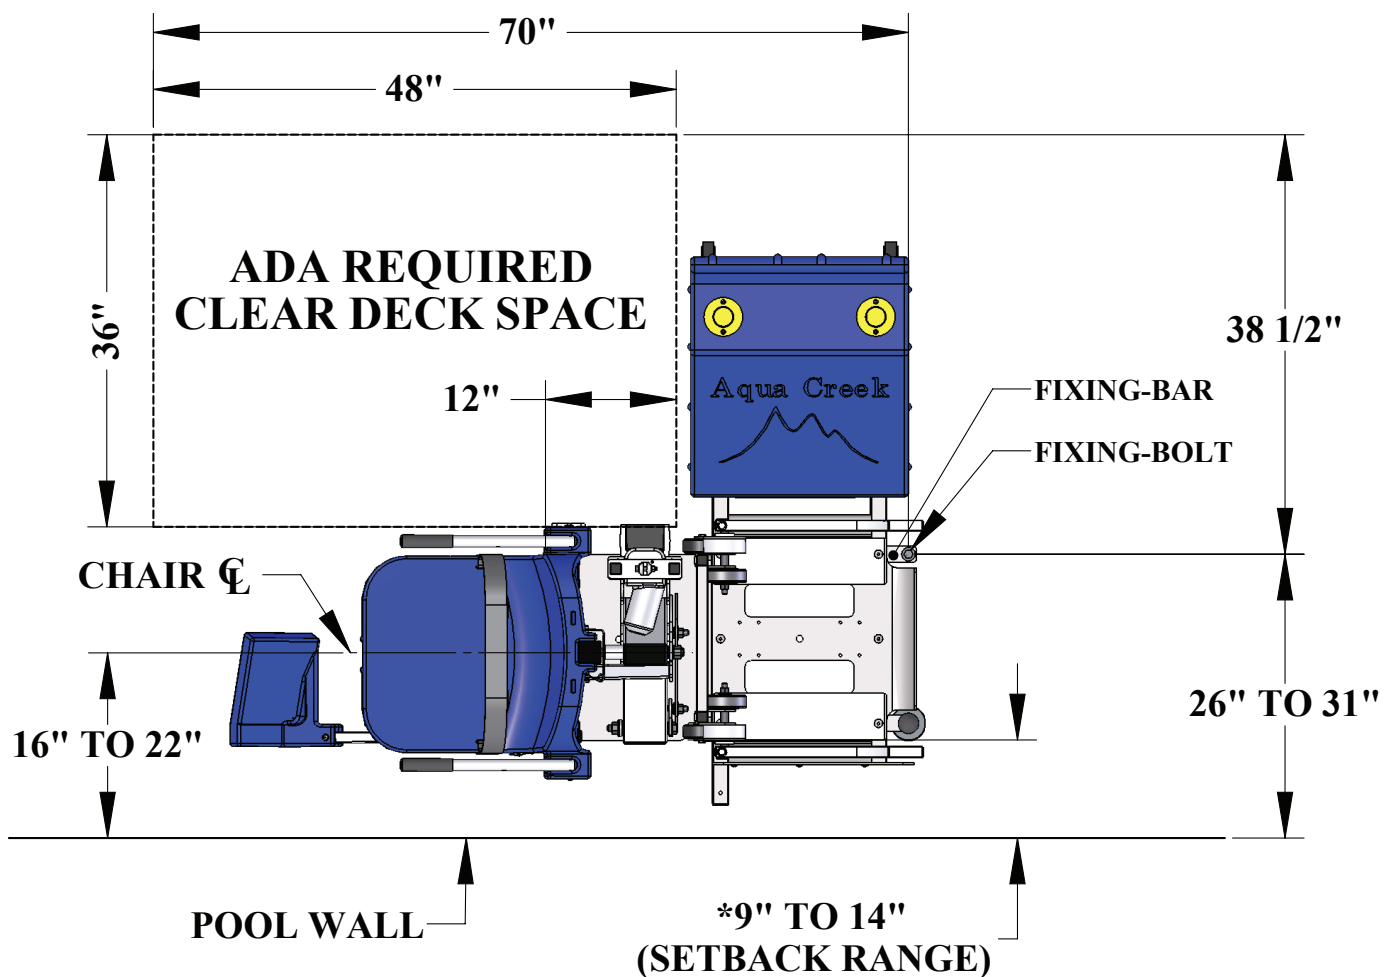

FIGURE 1
- Clear Deck Space Dimensions (see FIGURE 1)
2. Situate the lift by the pool edge (refer to FIGURE 1, page 3) and lock the casters. Set brake by turning the brake knob clockwise until the brake foot comes into contact with the pool deck. NOTE: Brake is located on the front corner of the lift, behind the seat.
1. Determine the location of the anchor insert, allowing for the ADA compliant clear deck space. (see FIGURE 1, page 3)